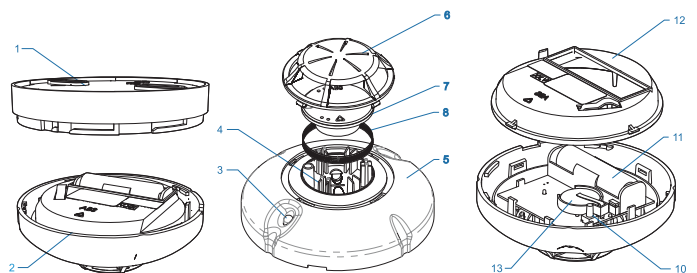

Fig.1
The fire detector consists of a printed circuit board and an optical chamber (pos.4, fig.1) mounted into a plastic box (pos.5, fig.1). The fire detector is also equipped with a micro key(pos.10, fig.1), providing control over the removal of the detector from the base, main battery holder (pos.11, fig.1) and back-up battery holder(pos.13, fig.1). The two LED indicators (pos.3, fig.1), one of them two-color (red and green) and the other – one-color (red), allow 360° visibility and provide information about the operating modes of the detector:
Fire detectors of series VIT are to be used with base type FD100 (pos.2, fig.1).
2. Set the fire detector into "Duty" Mode and its zone into "Test" Mode. From 20 cm distance influence on the detector by means of a smoke tester for the optical part. For a period of time not more than 20s after the influence the detector should enter "Fire Condition" and LEDs on detector's body (pos.3, fig.1) will illuminate. The smoke concentration, the radio signal quality and the status of the detector can be monitored from the menu of the Fire Control Panel.
3. The panel automatically sends command for resetting after 1min. After receiving the command the detector enters "Duty" Mode. LEDs on the detector's body (pos.3, fig.1) must turn OFF.